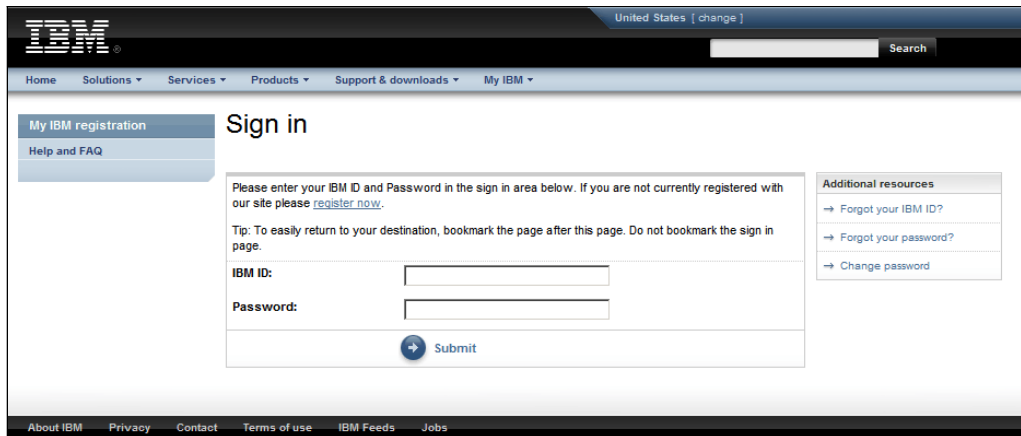

Figure A-8 IBM ID - Sign in
- b. If you do not have an IBM ID, or you are not currently signed in to the IBM Support Portal, you will see the website as shown in Figure A-8.
- The Sign In window appears as shown in Figure A-8 on page 724. Enter your IBM ID and password in the sign in area to sign in and proceed. If you are not currently registered with the website, click **Register Now**.